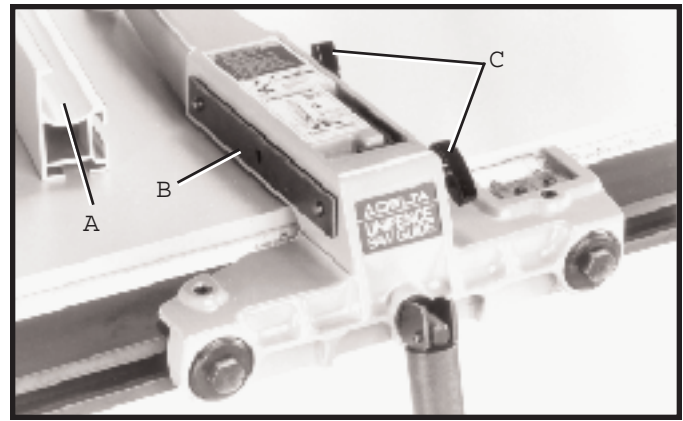
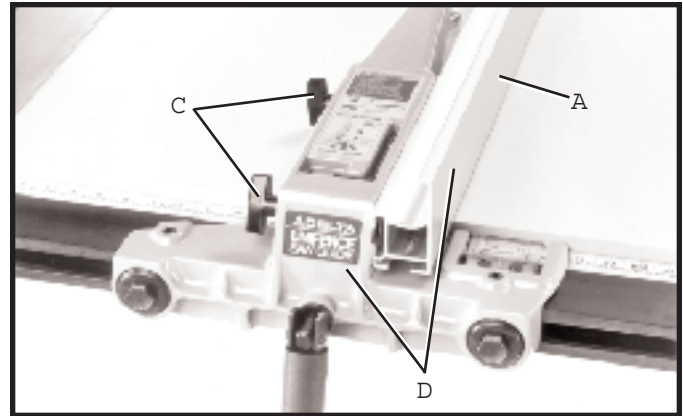

Fig. 63
Fig. 64
In some cases it may be desirable to use the fence on the left side of the saw blade. This is easily accomplished by repositioning the fence (A) Figures 63 and 64, fence clamp bar (B) and lock knobs (C) so that the fence (A) will be attached to the right side of the fence body, as shown in Fig. 64. The complete fence assembly (D) Fig. 64, can easily be moved to the left side of the saw table.